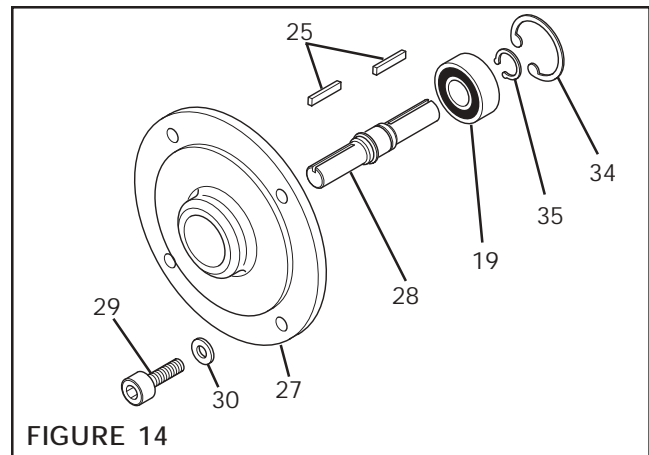

FIGURE 14
2. Remove the Retaining Ring (Item 34) from the output end of the Input Unit (See Figure 14).
3. Fully supporting the Flange (Item 27), press the Shaft (Item 28) out of Input Unit (See Figure 14).
NOTE: Bearing (Item 19) will come out of the Flange (Item 27) with the Shaft (Item 28) (See Figure 14).
4. Remove the Retaining Ring (Item 35) from the Shaft (Item 28) (See Figure 14).
5. Press the old Bearing (Item 19) off the Shaft (Item 28) (See Figure 14).
8. Carefully align the outer race of the new Bearing (Item 19) with the bore of the Flange (Item 27) and press the new Bearing into place (See Figure 14).
9. Reinstall Retaining Ring (Item 34) (See Figure 14).
10. Fully supporting the inner race of the Bearing (Item 19), press the Shaft (Item 28) into the Bearing until the Retaining Ring (Item 35) on the Shaft is seated against Bearing (See Figure 14).